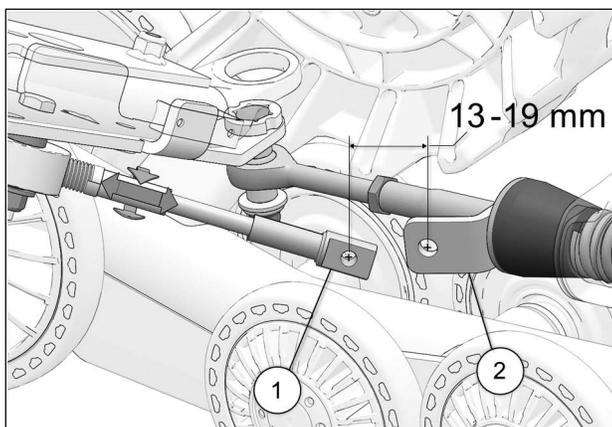

Fig. 29
16. Turn the vehicle's steering wheel to its maximum point of travel on the left. While maintaining pressure on the steering wheel, turn threaded rod to adjust length of cable. See Fig. 29
17. Position cable end hole (1) 13-19mm short of support plate (2) mounting hole. See Fig. 29